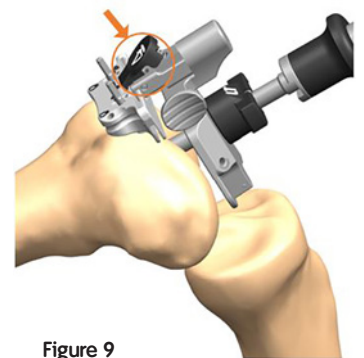

Figure 9
- Push the button on the Valgus Bridge (Figure 9) to remove the alignment assembly from the incision site. Only the distal cutting block should remain on the femur.